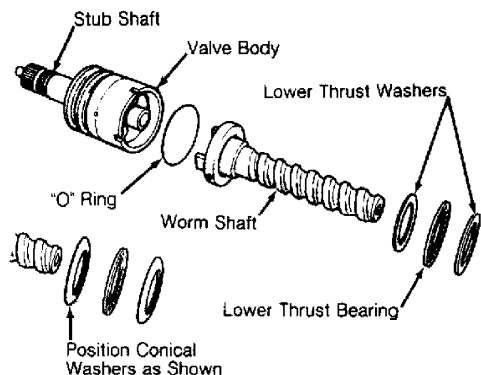

Fig. 6: Exploded View Of Valve Body & Worm Shaft Assembly
1) Lubricate all parts with power steering fluid before reassembly. Install lower thrust bearing and washers on worm shaft. See Fig. 6.
4) Align stub shaft drive pin with spool valve locating hole. Align notch in stub shaft cap with pin in valve body. Press stub shaft and spool valve into valve body. Install stub shaft cap "O" ring into valve body. See Fig. 6.